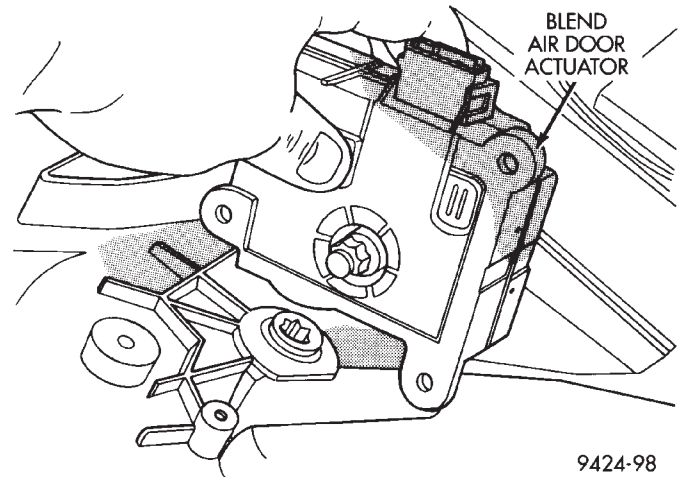
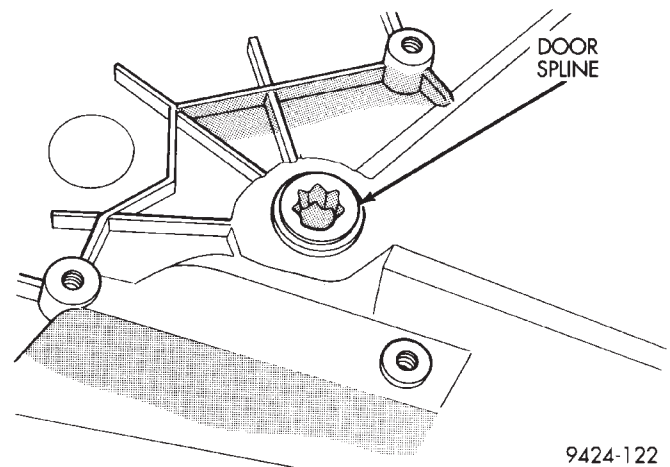

Fig. 51 Blend-Air Door Actuator
Fig. 52 Blend-Air Door Spline
(1) Remove left and right underpanel silencer/ducts.
(2) Remove two screws from actuator which are accessible from the right side of center stack.
(3) Remove one screw from actuator on left side.
(4) Pull actuator straight down from shaft and disconnect electrical connection (Fig. 51). Upon removal, note the shaft position of the actuator, because the shaft on this motor is keyed (Fig. 52). When installing new actuator, its shaft must be positioned in the same location.